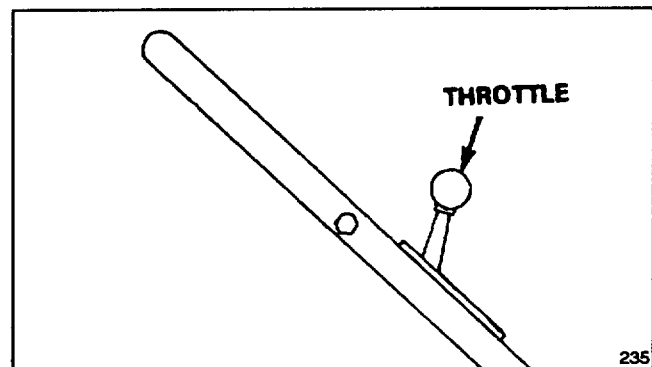
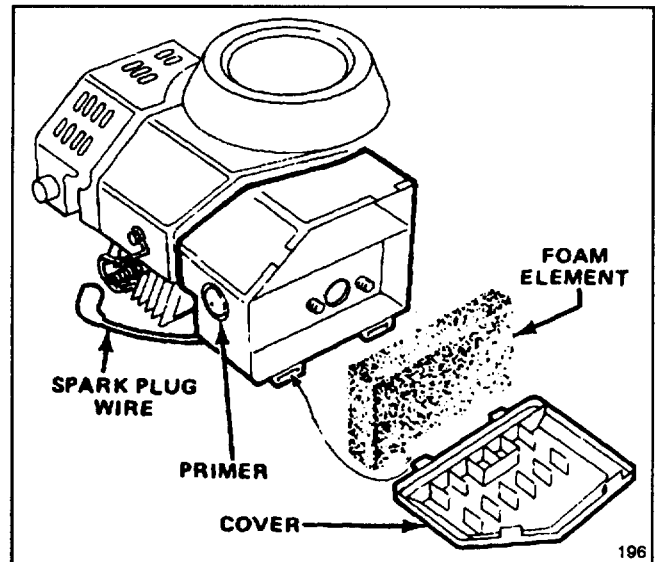

Figure 7
Figure 9
1. **CONTROLS**—Throttle control is on upper handle (Fig. 7) and recoil starter is on engine.
2. **STARTING**—Push spark plug wire onto spark plug (Fig. 9). Move throttle control (Fig. 7) to CHOKE. Place foot on deck and pull fingertip starter out until positive engagement results; then pull vigorously to start the engine. Regulate throttle as desired when engine starts.
3. **STOPPING** (Fig. 7)—Move throttle control to STOP and wait for engine to stop. Pull wire off spark plug if mower will be unattended or not used.
1. Stop engine and pull wire off spark plug (Fig. 9).
SERVICING AIR CLEANER (Fig. 9)